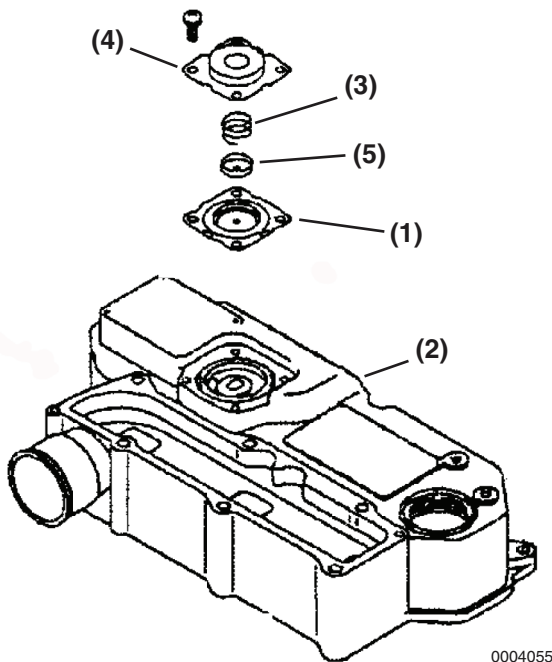

Figure 5-18
The non-turbo TNV engines use a crankcase breather system that has a spring-backed diaphragm **(Figure 5-18, (1))** in the valve cover **(Figure 5-18, (2))**. When the crankcase pressure reaches a predetermined value, the diaphragm opens a passage that allows crankcase fumes to be routed to the intake manifold.
2. Remove the diaphragm cover, spring, diaphragm plate **(Figure 5-18, (5))** and diaphragm.
To inspect the diaphragm and spring **(Figure 5-18, (3))**:
1. Remove the bolts retaining the diaphragm cover **(Figure 5-18, (4))**.